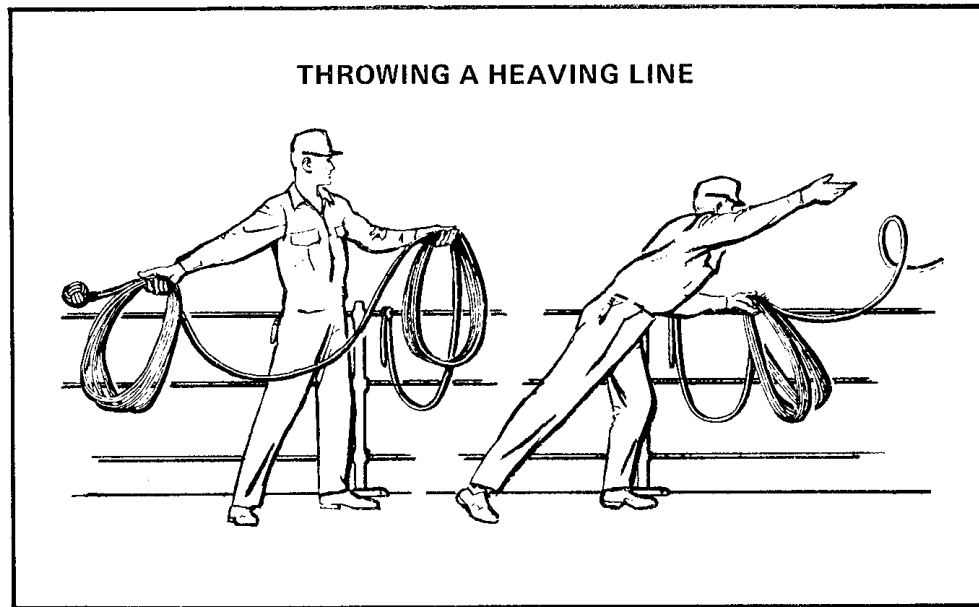

Figure 4-55 Throwing a Heaving Line
4. **Heaving a Line** — To throw a heaving line, the line is first coiled into the hand in bights about 3 to 4 feet in circumference. Next separate this coil in half keeping the half with the monkey's fist in your heaving hand, allow about 5 feet of line to hang between your two hands; turn the body sideways to the target, heaving arm extended and hold the other half palm open facing the target. Heave the weighted end, coil and all towards the target and allow as much of the unweighted end to go out as necessary. You should normally retain the inner end in your hand, or you may secure it to the guard rail. See Figure 4-55.